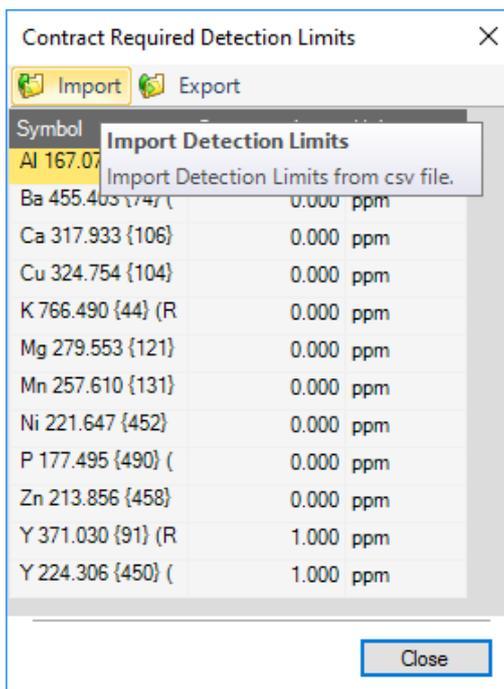

Figure 10-24. Contract Required Detection Limits import
- On the toolbar, click **Edit the contract required detection limits**. A dialog opens, see Figure 10-24.